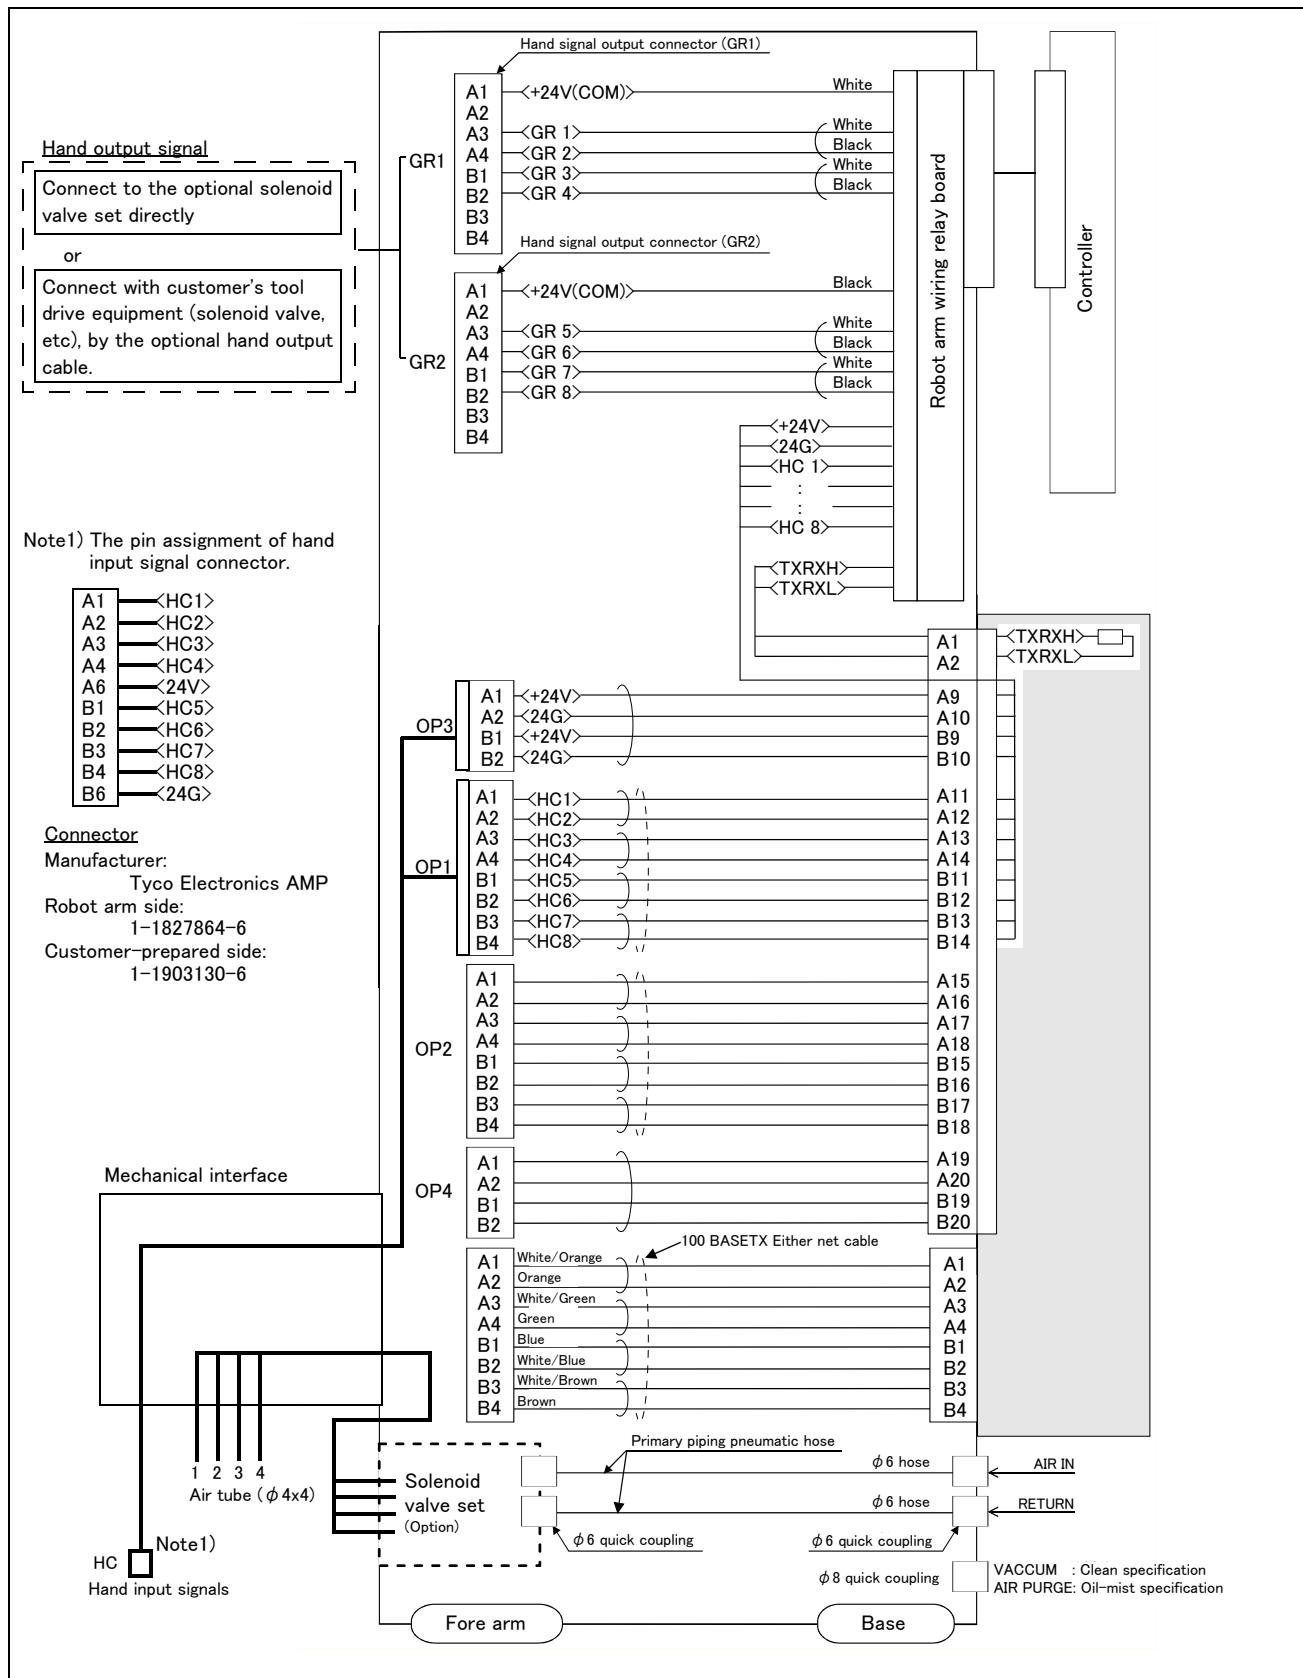

Fig.2-27 : Wiring and piping system diagram for hand and example the solenoid valve installation: SH01
\*3) Refer to Fig. 2-27 for pin assignment of the hand input cable (HC).